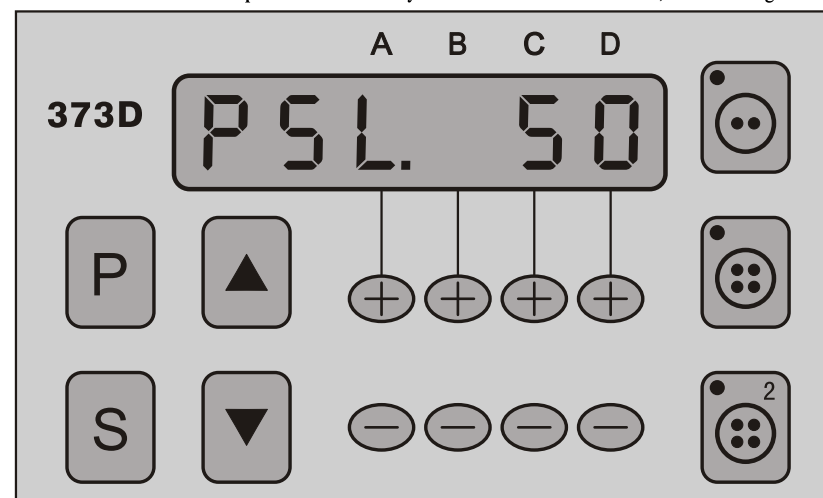

Figure 5-5, the acceleration curve adjustment% (user parameters 002.PSL) content of parameter selection screen
3) Press S to enter the parameter to modify the contents of the interface, shown in Figure 5-5